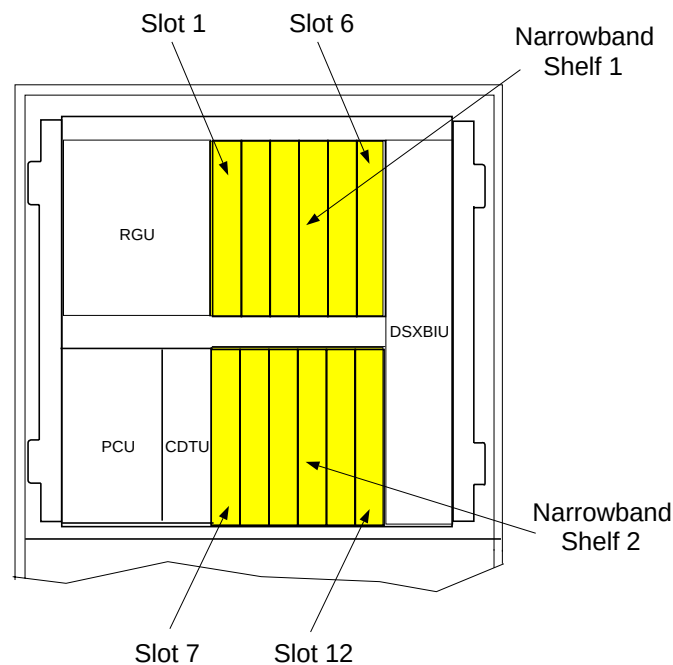

Figure 1 – Front View of Narrowband Shelf
5. Locate slot 1 on shelf 1 of the NBS (Figure 1).